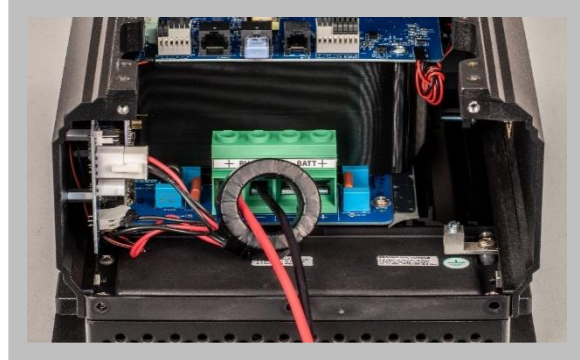

Figure 11
3. Pass **PV+ AND PV-** cables through GF toroid, **Figure 11**.